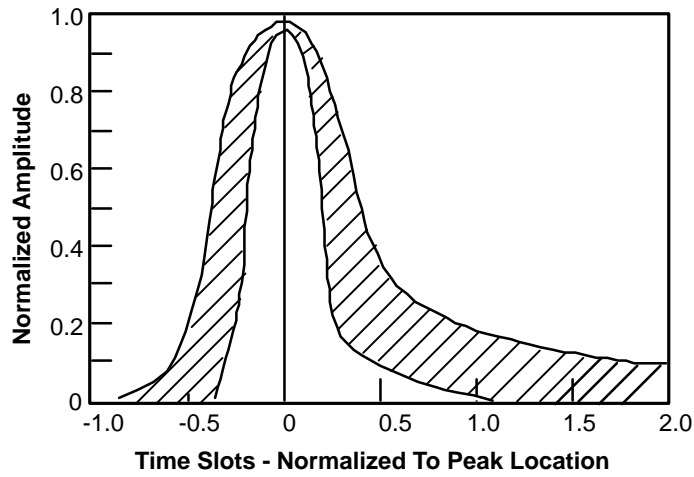
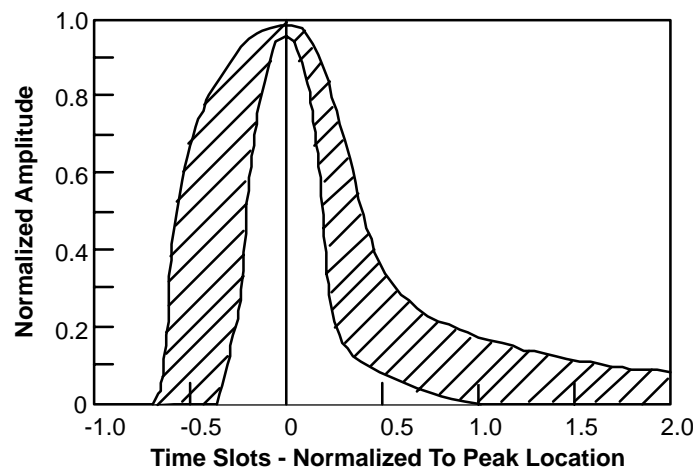

Figure 4. DSX-3 Isolated Pulse Template for ACCUNET T45 Standards
Figure 5. DSX-3 Isolated Pulse Template for G.703 Standards
requirements exist: the ACCUNET T45 pulse template (see *Table 3* and *Figure 4*) and the G.703 pulse template (see *Table 4* and *Figure 5*). *Table 3* and *Table 5* give the associated boundary equations for the templates. The XR-T7295 correctly decodes any transmitted signal that meets one of these templates at the cross-connect.
Pulse Shape	An isolated pulse must fit the template in Figure 4 or Figure 5 . 1 The pulse amplitude may be scaled by a constant factor to fit the template. The pulse amplitude must be between 0.36vpk and 0.85vpk, measured at the center of the pulse.
- 1 The pulse template proposed by G.703 standards is shown in *Figure 5* and specified in *Table 4*. The proposed G.703 standards further state that the voltage in a time slot containing a 0 must not exceed  $\pm$  5% of the peak pulse amplitude, except for the residue of preceding pulses.
**Table 3. DSX-3 Pulse Template Boundaries for ACCUNET T45 Standards (See *Figure 4*.)**
Table 4. DSX-3 Pulse Template Boundaries for G.703 Standards (See Figure 5)